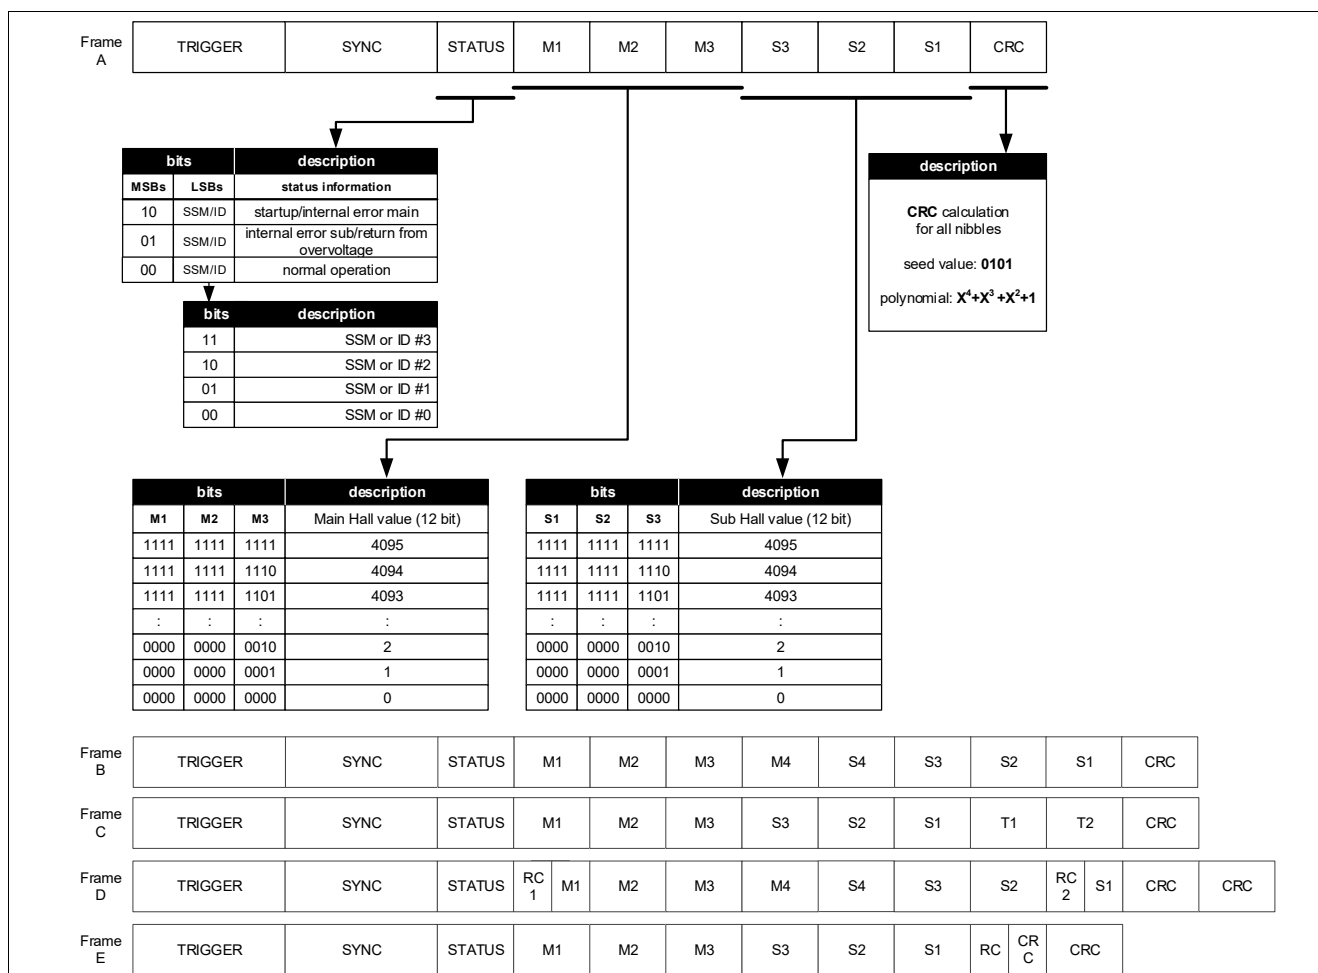

Figure 8 Content of the SPC protocol
- 1) Rolling counters combined with data nibbles, see Figure 8
- 2) Rolling counter combined with CRC nibble, see Figure 8
There are two selectable protocols that include the rolling counter (see Figure 8), on frame D a 2 bit rolling counter is included in the first main data nibble and another 2 bit rolling counter in the first sub data nibble.